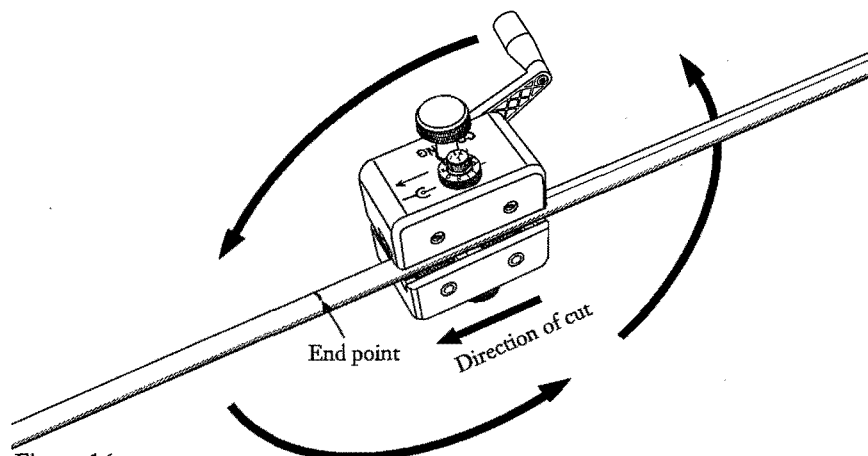

Figure 16
7.7 With the blade depths set, turn the handle to advance the tool to the end of the cut (Figure 16).